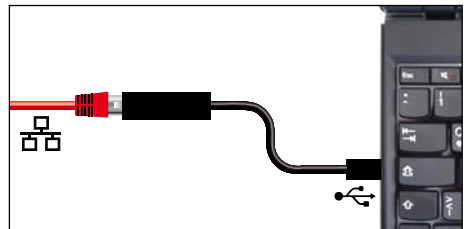

Fig. 7 USB to Ethernet converter
- ▶ USB to Ethernet converter (Fig. 7). This makes it possible to connect the Ethernet connection interface (see page 12) to the USB port of a computer/laptop.